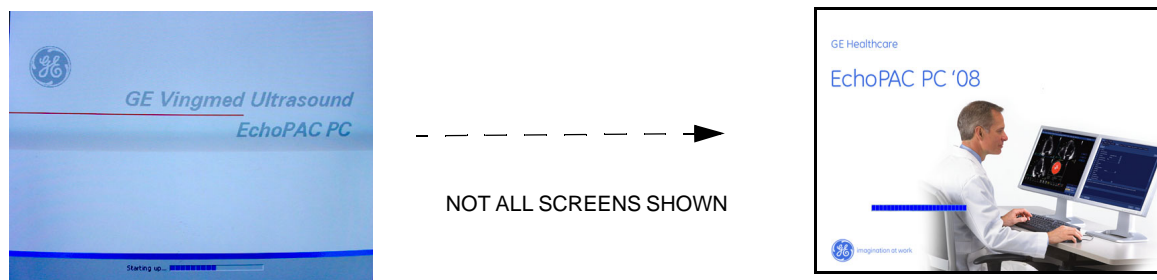

Figure 8-64 Normal Start Up Process
- 13.) Verify a similar boot sequence as shown in Figure 8-64 "Normal Start Up Process" on page 8-58.